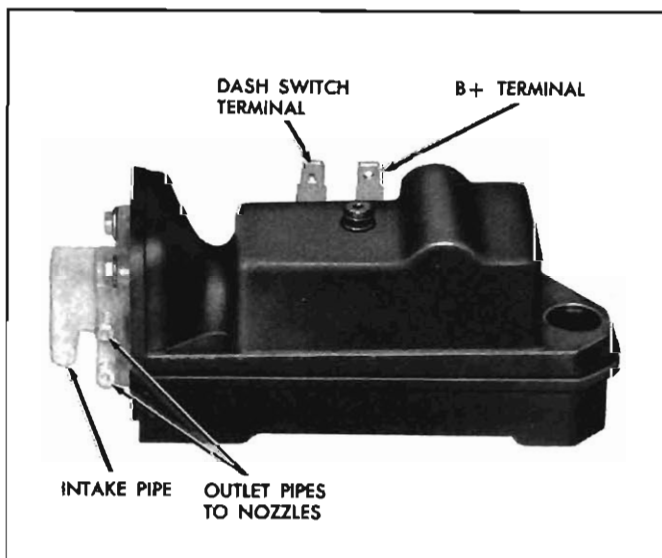

Fig. 8-21—Washer Pump
The positive displacement washer pumps used on the one and two speed non-depressed park wipers differ considerably in appearance from the 1961 integral type pump (fig. 8-21), but the basic pumping action and valve arrangement remains the same. The pump mechanism consists of a small bellows, bellows
**CAUTION:** Install washer multiplug harness connector with battery lead on terminal with no tang (fig. 8-21). Incorrect installation of connector will result in direct ground and destroy wiper motor fuse.
3. Connect 12 volt supply to No. 2 wiper terminal and connect a jumper wire from terminal No. 1 to ground (fig. 8-21). If wiper operates, the dash switch or wiring between dash switch and wiper is defective.